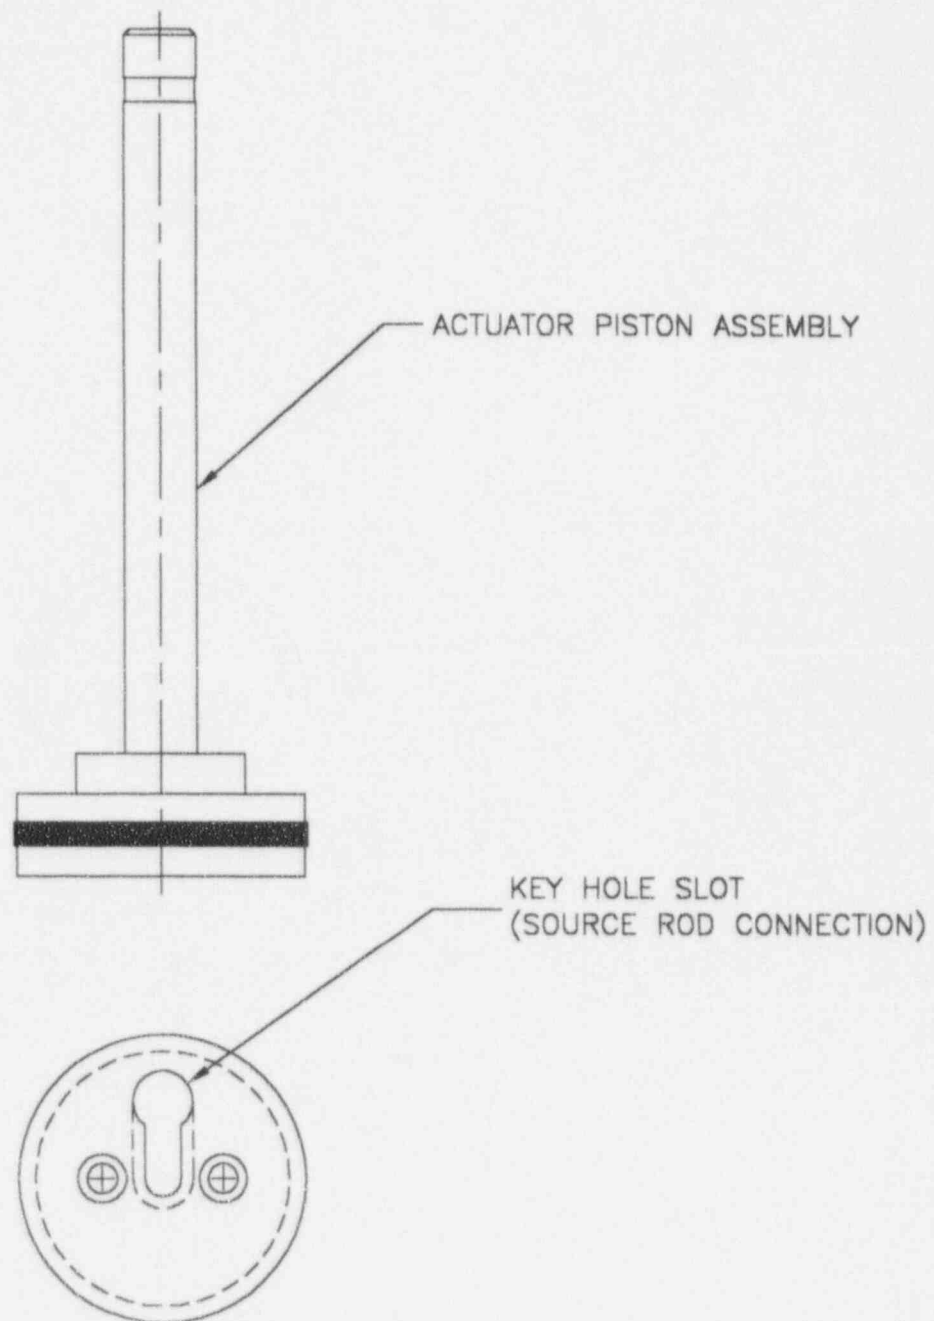

FIG. 1
- 1) Figure 1 shows the keyhole slot.